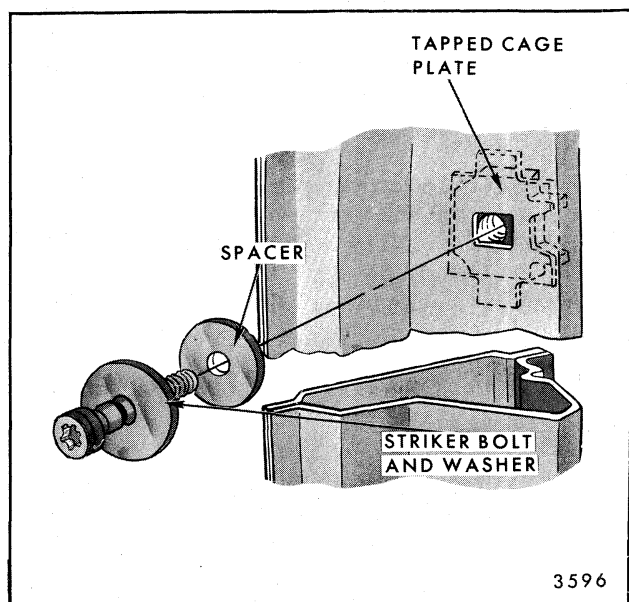

Fig. 5-36-Door Lock Striker Installation
2. Insert tool J-23457, BT-7107 or equivalent into the star-shaped tool recess in the head of the striker bolt and remove striker (refer to Fig. 5-36).